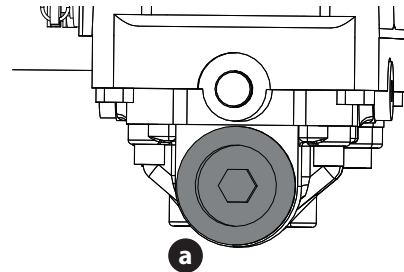

Fig. 37
2. Place a suitable container under the drain plug (a) on the transmission. Remove the drain plug (a) and allow the transmission oil to drain (Fig. 37).